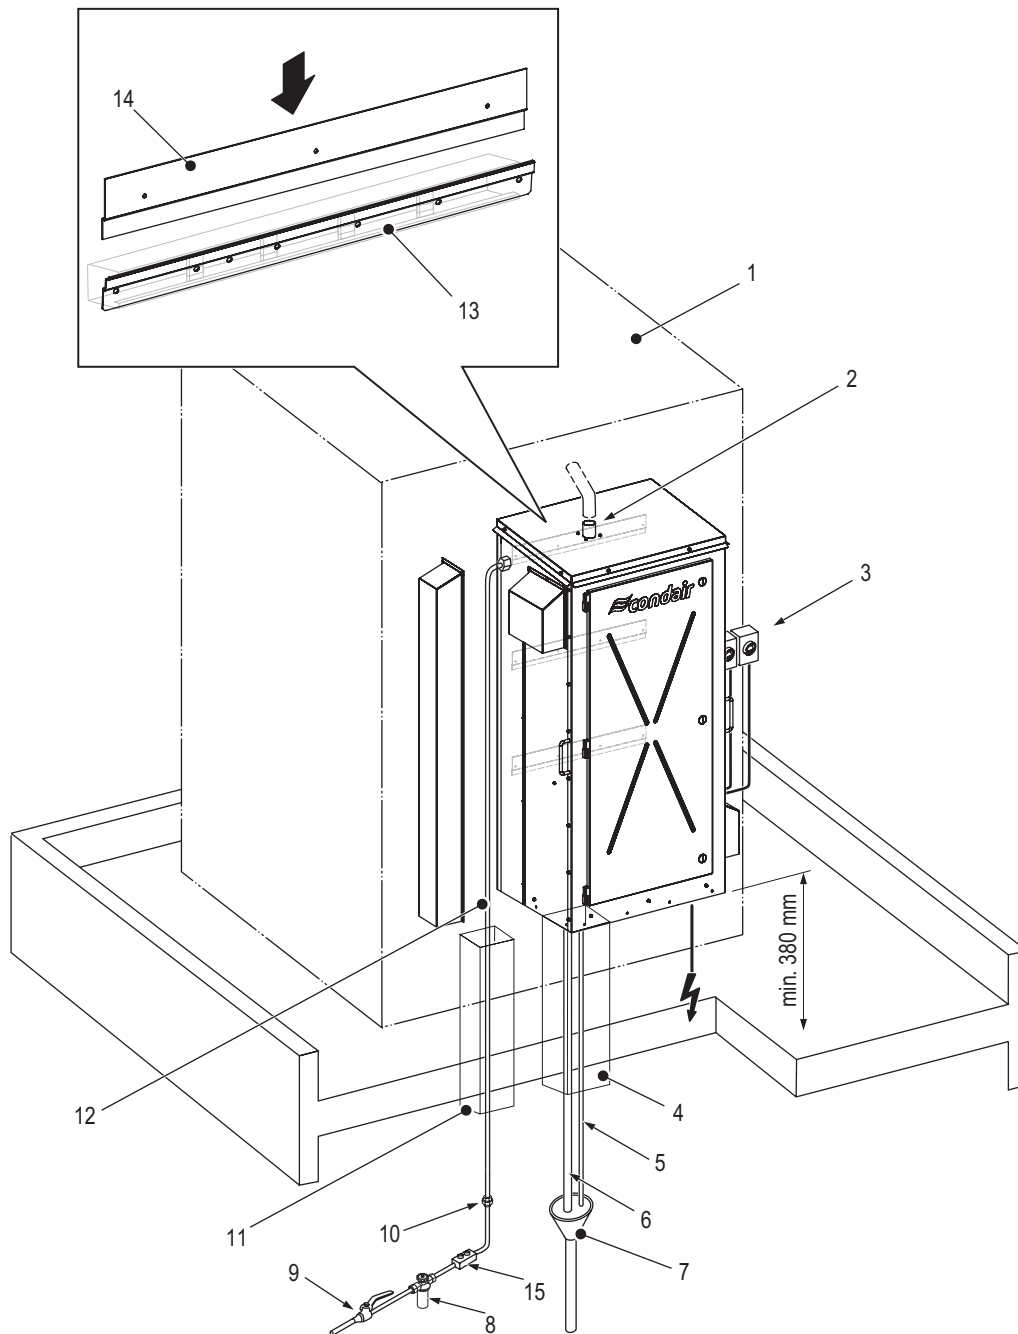

Fig. 5: Typical Installation on Air Handling Unit (medium size unit shown)
- mounted directly on a suitably reinforced vertical surface on the air handling unit (AHU), see Fig. 5 in chapter 5.2.2.
- Note 3:** The air gap funnel should be located inside the building (recommended), as shown in Fig. 5, and connected to a dedicated building drain (recommended) with a drainage capacity of at least 30 l/min for an EL-OC unit and an RS-OC unit – per steam cylinder. The drain line exiting the funnel should have a minimum inner diameter of 40 mm. The drain lines into the funnel must not touch the sides or bottom of the funnel. In large units, separate air gap funnels must be used for drain lines from each cylinder.